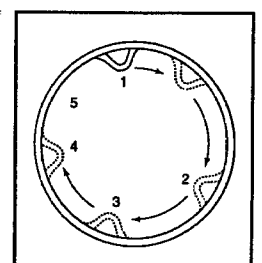

Figure 7
9. If part of the ring remains out of the groove, apply pressure along the entire ring until it is properly seated (figure 7).